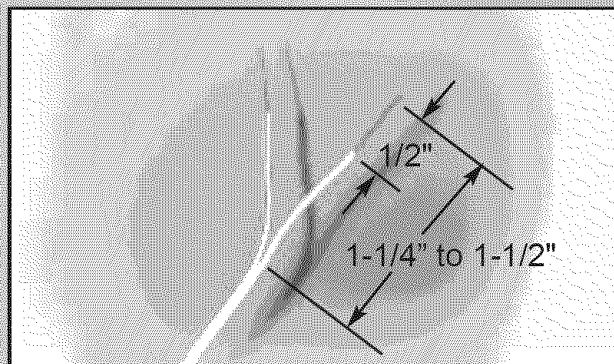

Fig. 4-1
2. Split wires at ends and remove 1/2 inch of insulation from end of each Wire. Fig. 4-1.